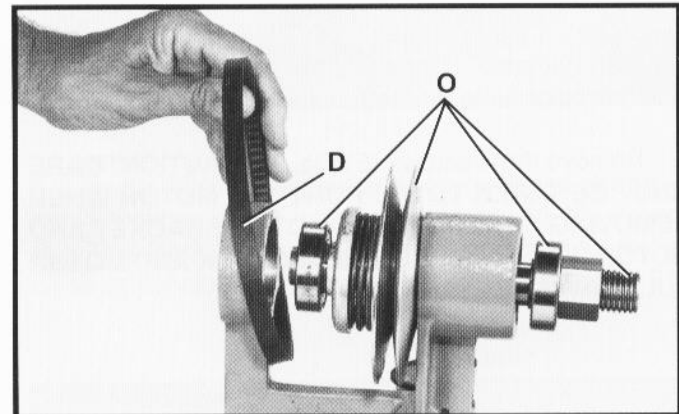

Fig. 99
10. Push spindle assembly (O) Fig. 99, to the right as shown to provide clearance enabling you to remove the belt (D). It may be necessary to tap on the left end of the spindle with a dowel rod to move spindle.